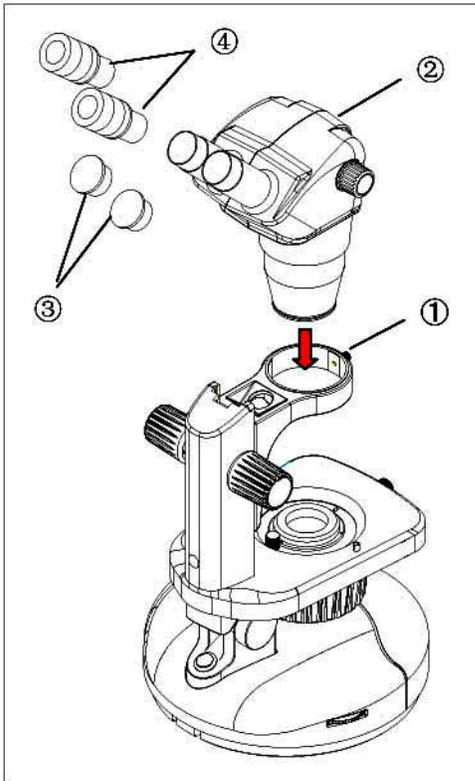

Fig. 1
### Mounting the Stereo Head (Fig. 1)
### Installing the Eyepieces (Fig. 1)
Remove the eyepiece dust caps ③ and insert the eyepieces ④ until they stop as shown in Fig. 1.